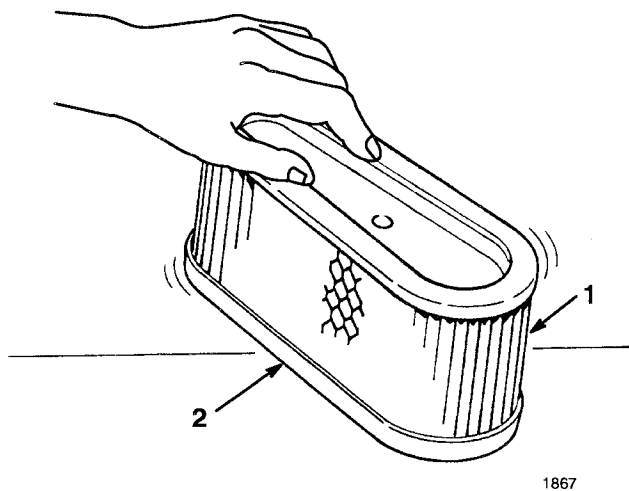

Figure 31
- A. Lightly tap the element on a flat surface to remove dust and dirt (Fig. 31).